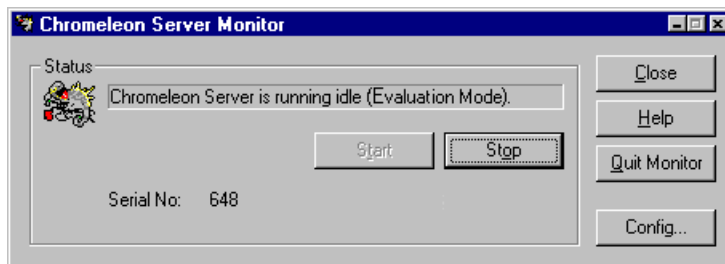

Figure B-4. Server Evaluation Mode
- If “Chromeleon Server is running idle (Evaluation Mode)” is displayed (see Figure B-4), the license Key Code has not yet been entered. If this is the case, go on to Step 4.